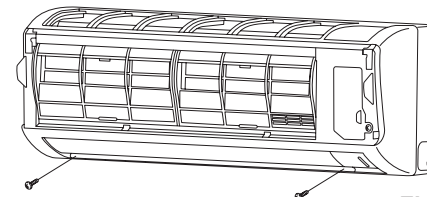
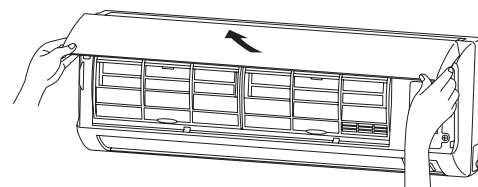

Fig. 2-200
Fig. 2-203
- (2) Remove the 2 screws. (Fig. 2-200)
- (2) Make sure that the grille and frame are firmly fitted together by engaging the tabs.
- (3) Affix the grille with the 2 previously removed screws. (Fig. 2-200)
- (4) Install the air intake grille.
- (a) Allow the edge of the air intake grille to slide into the top of the indoor unit, and then insert it all the way inside. (Fig. 2-203)